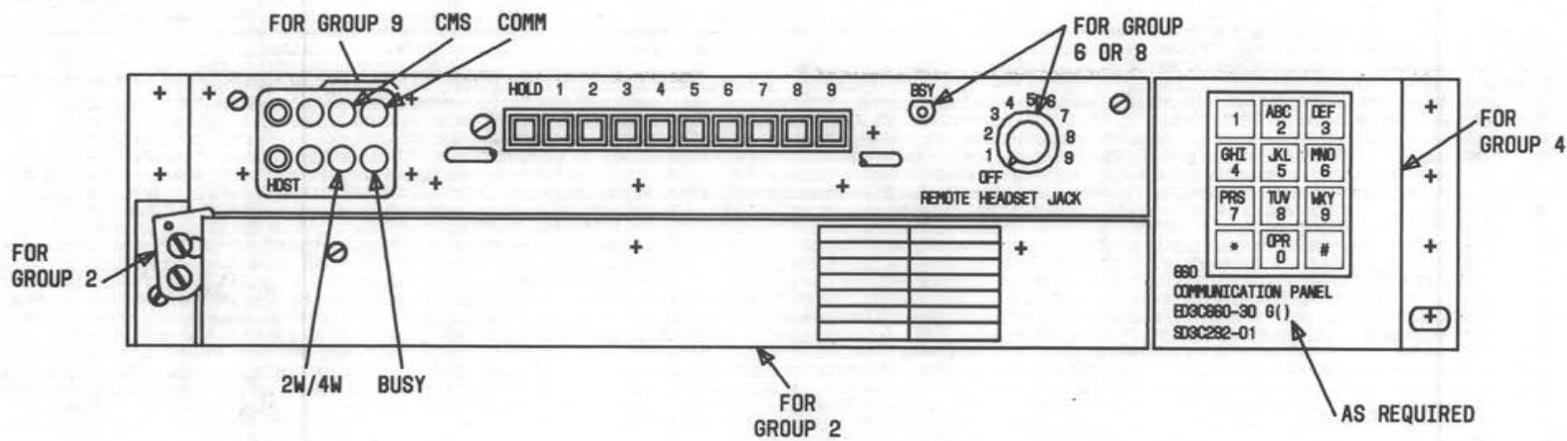

Fig. 1—ED-3C660-30 Communication Panel
**2.02** Each panel includes a 10-button key with one button providing the HOLD function and two buttons reserved for office intercom access. Either TOUCH-TONE® dialing or a rotary dial may be provided. A pair of jacks for an operator's headset is provided and, in addition, six insulated jack mounting positions for miscellaneous features are included. (See Fig. 1.)